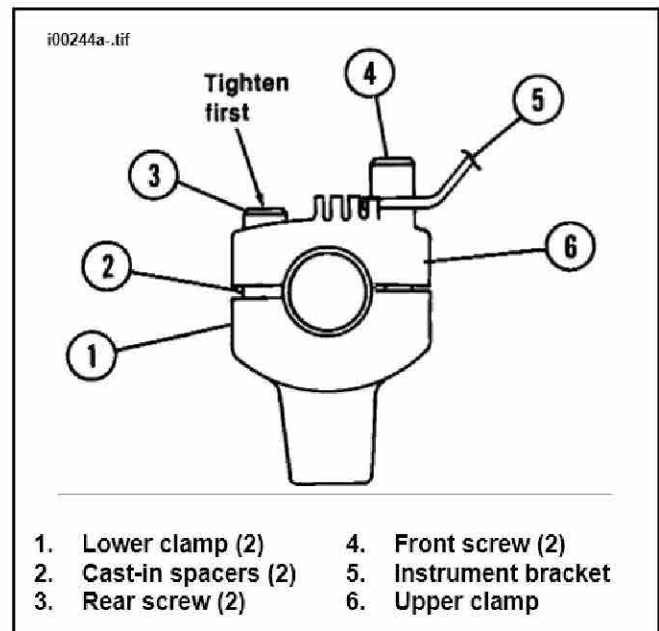

Figure 7. Handlebar Clamp
1. See Figure 7. Adjust handlebars to Rider's normal riding position; hold in position.
- a. Tighten two rear screws (3) until cast-in spacers (2) of upper clamp contact handlebar lower clamps (1).
- b. Tighten front screws (4) to 12 - 15 ft-lbs (16 - 20 Nm).